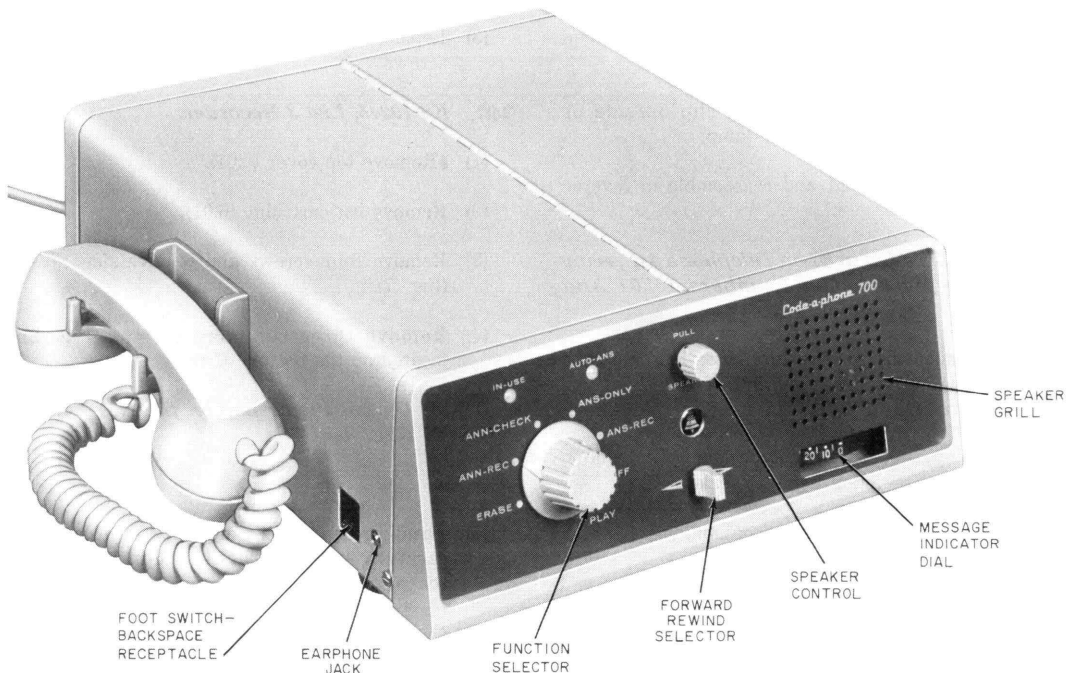

Fig. 1—KS-19245, List 1 Telephone Answering Set
- 1.02 The KS-19245, List 1 telephone answering set (Fig. 1) has been designed to facilitate maintenance by the use of plug-in assemblies. In general it is not recommended that replacement of component parts of these plug-in assemblies be attempted, since readjustments requiring special equipment and procedures will usually be required.